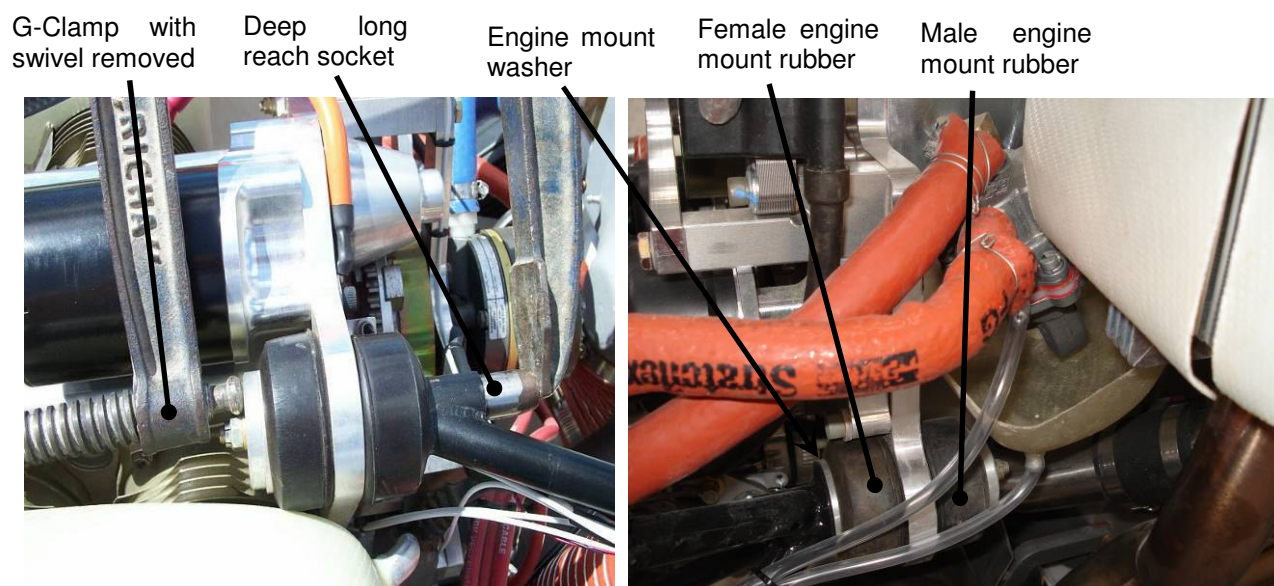

Figure 41 Upper & Lower Engine Mount Detail
- To place the nuts on the mount bolts the rubbers must be compressed. Do this by using a deep reach socket inside the engine mount pins & clamping the rubber mount assembly using a G-clamp with the swivel taken off the ball. See Figure 41. Start nuts on both upper mount bolts.
- Connect the fuel line to fuel pump (Refer to Figure 41). Ensure the fireproof sleeve is in place.
- Ensure that the fuel overflow line is in place, and secured to vent overboard. This is the small, clear hose shown leading from the fuel pump in Figure 41.